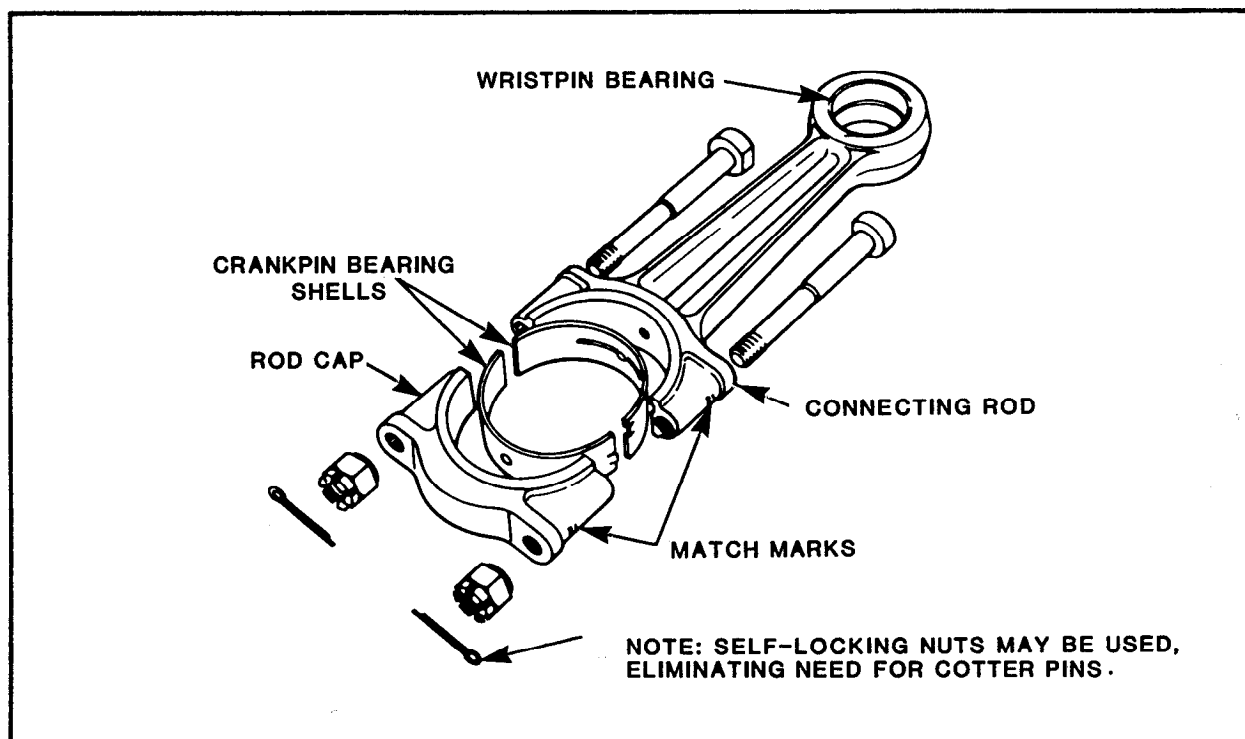

FIGURE 2-4. Connecting Rod Assembly
8.6.2 Vertical Compressor Bearings. Vertical compressors are usually fitted with automotive type crankpin bearings with babitted inserts (figure 2-4). These bearings are not adjustable and must be replaced. When replacing bearing inserts or bushings, make sure all parts are thoroughly clean and that the oil hole is aligned with the oil hole in the connecting rod.